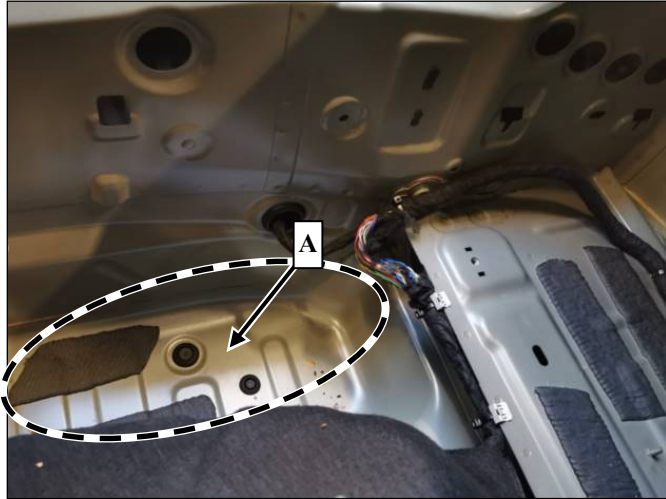

Figure 1
3. Check area of spare wheel well (A, Figure 1) for moisture/water.